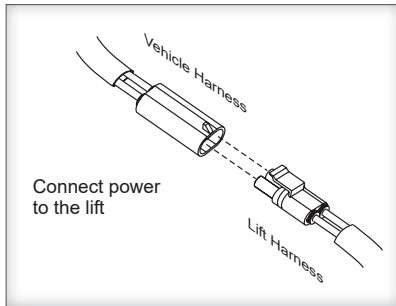
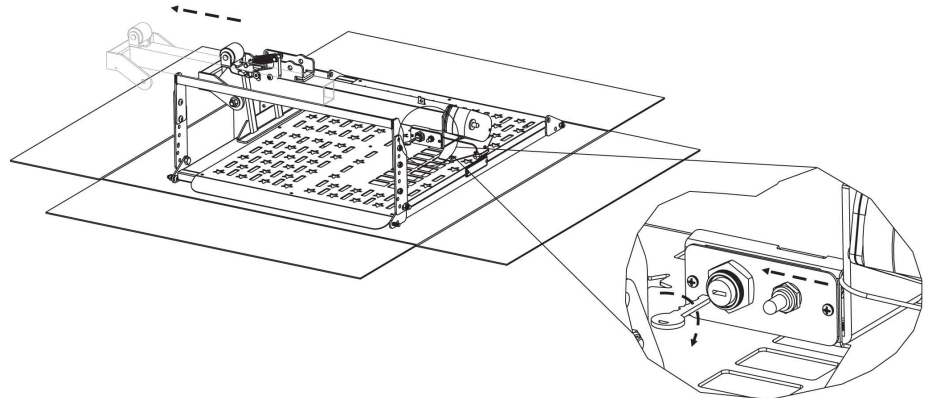

Figure 14-1
Figure 14-2
4. Connect power to the lift. [Figure 14-1] Insert and turn key. Press 'DOWN' to extend the lift. [Figure 14-2]